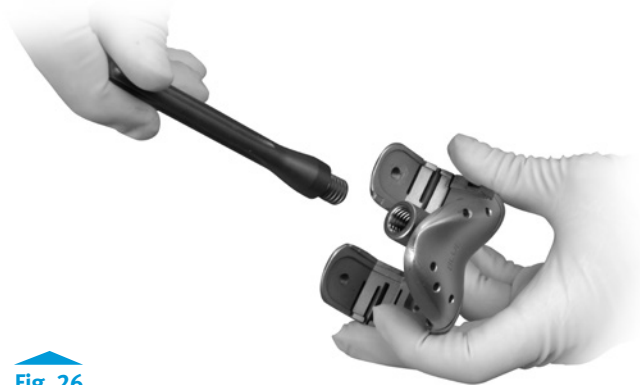

Fig. 26
- Insert the appropriate Straight Stem Extension Provisional into the appropriate (size/left/right) RH Knee Femoral Provisional/Cutting Guide (Fig. 26).